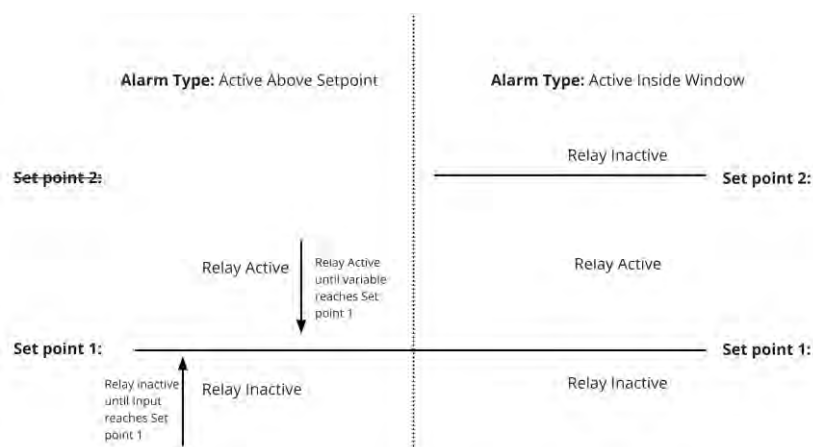

Figure 86: Alarm Type Function Diagram
- **Alarm Type** – The mode in which the alarm will function (Samples shown in Figure 86)